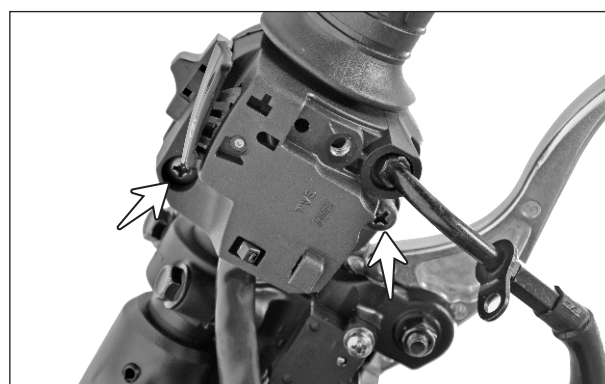

Fig. 2.75
- Remove the CRR pan head screws (M5x30 2 nos.) from the throttle case upper and lower mounting. (Fig. 2.75)